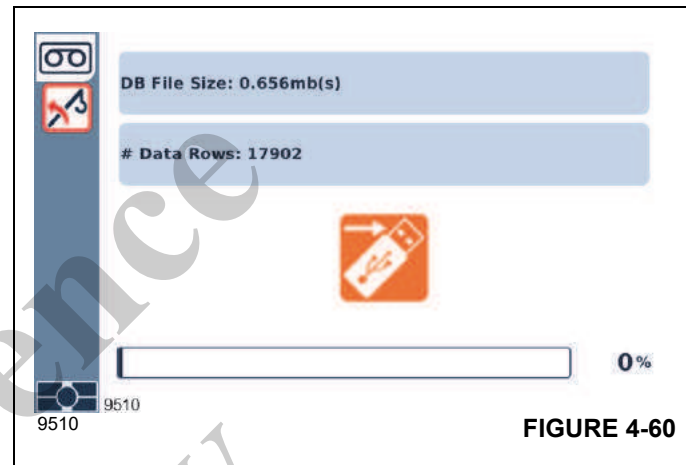

FIGURE 4-60
- The data logger screen (Figure 4-60) opens.